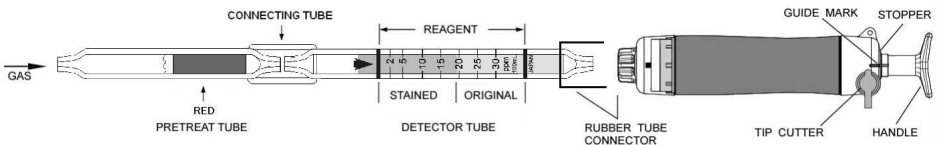

Fig.1
- ① Break both ends of the detector tube and pretreat tube, and connect each end of the detector tube and pretreat tube with connecting tube as shown in Fig.1.
- ② Insert the detector tube into the aspirating pump securely as shown in Fig. 1. (Arrow mark on the detector tube shall point to the pump.)
- ③ Align the guide marks on the shaft and stopper of the aspirating pump.
- ④ Pull the pump handle at a full stroke until it locks and wait for 40 seconds or until the completion of sampling is confirmed with the flow indicator of the pump. (See descriptions about the flow indicator in the instruction manual of the pump)
- ⑤ On completion of sampling, read the scale at the maximum point of the stained layer.
- ① Temperature: Correct the tube reading by following temperature correction table.